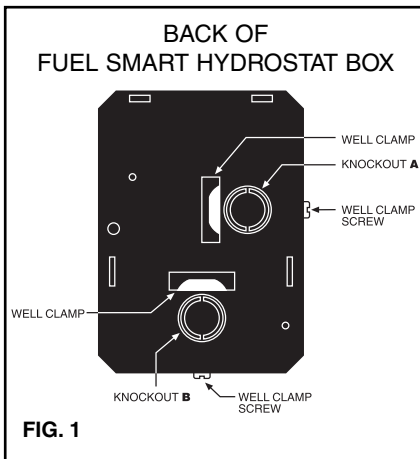

FIG. 1
STEP 1 Two mounting positions are available on the back of the control (Fig. 1). Select which of the two positions (2 knockouts) is best for the location of the control. Remove the knockout.